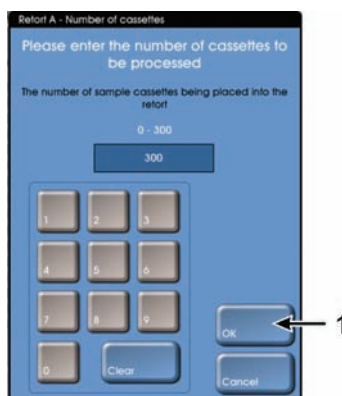

Figure 54: Number of cassettes dialog box with OK button (1)
5. If prompted, enter the number of cassettes you are processing then select **OK** (see Figure 54). This step will not occur if the "Prompt for cassettes" option is disabled (refer to Section 2.8.1 "general").